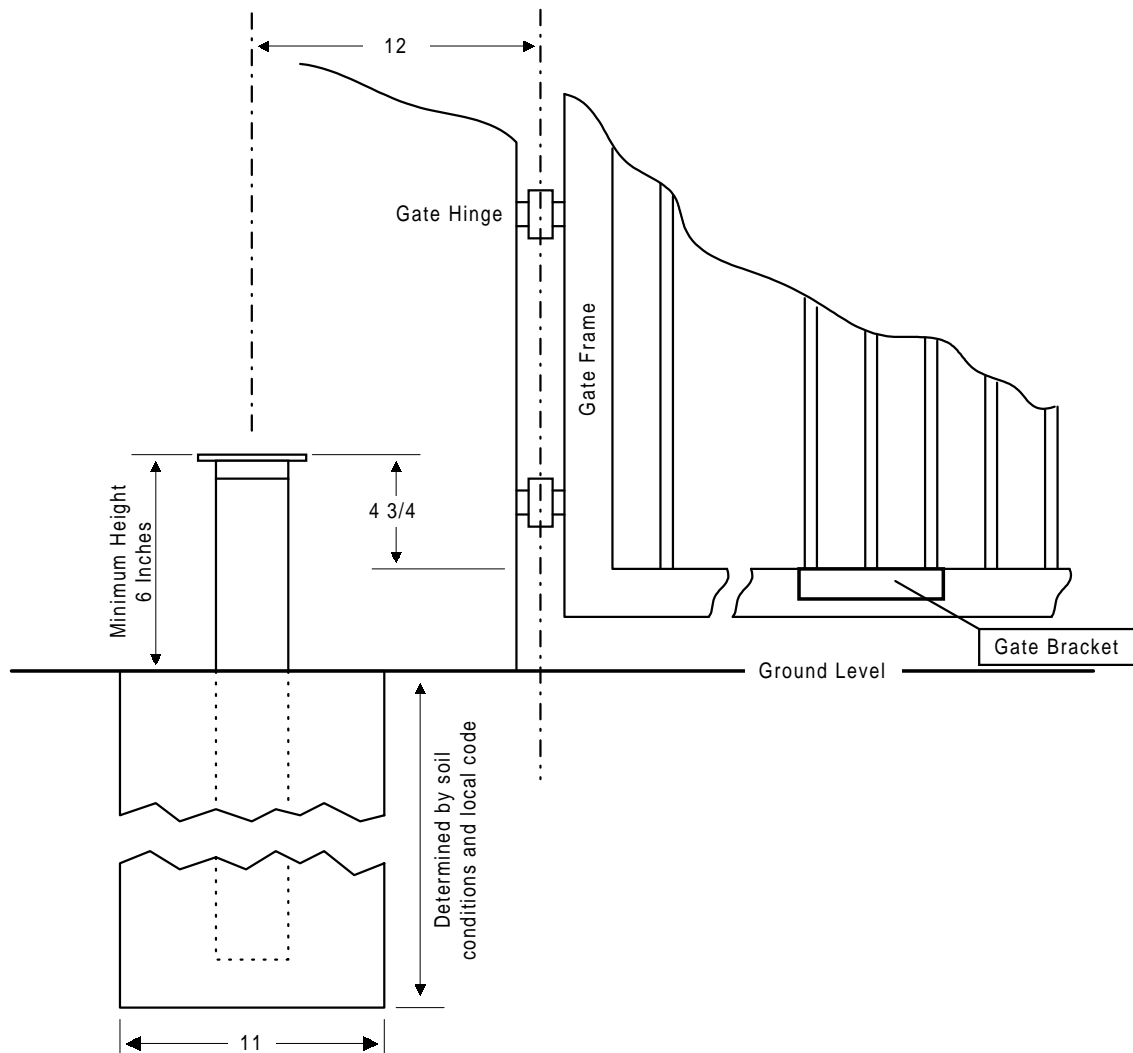
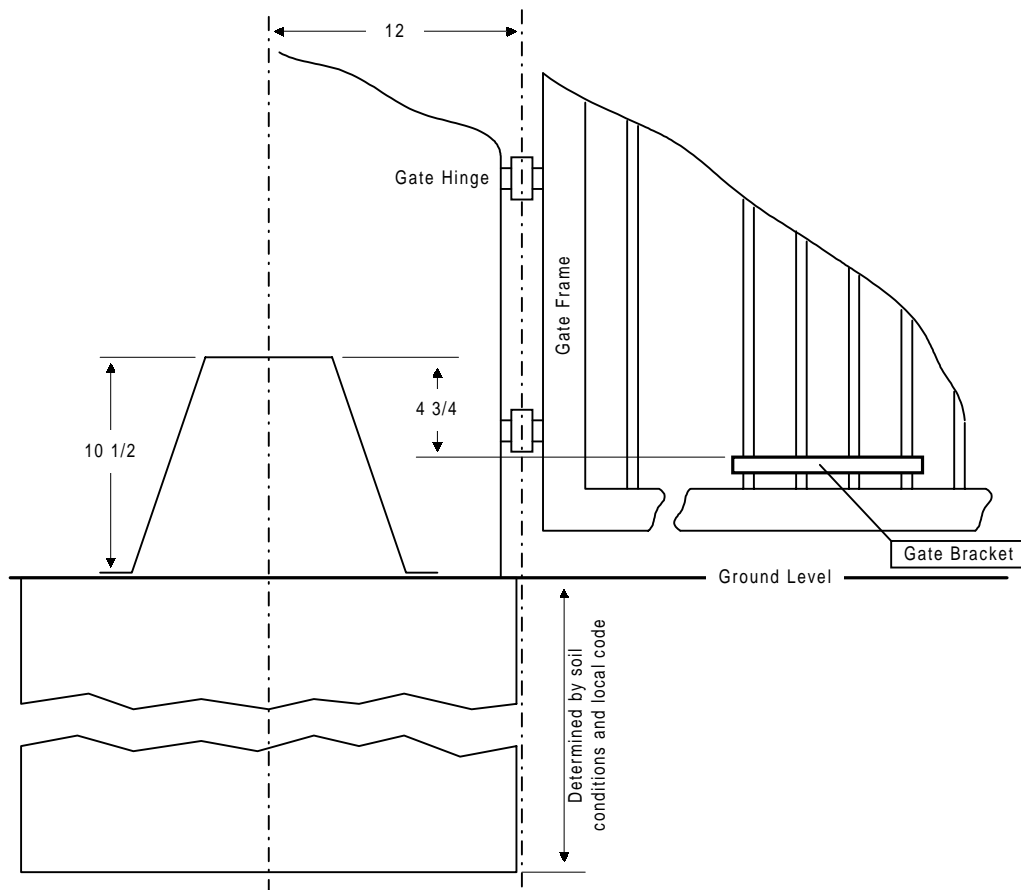
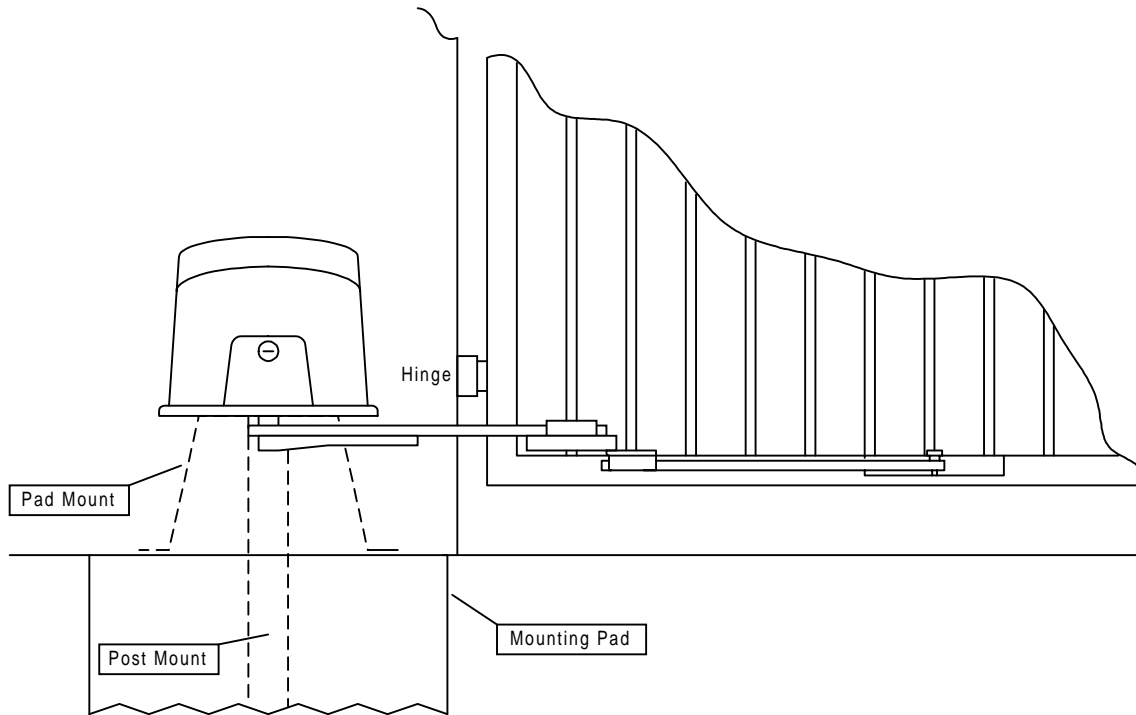

Figure 4
Figure 7
Figure 12
5. Determine the height of the assembly required for your installation. Refer to Figure 4.
- The concrete pad is sized so that there is a minimum of four (4) inches of concrete from the outside edge of the mounting pipes.
- The height requirement is determined by adjusting the mounting plate / pipe assembly so that the top of the mounting plate is 4 3/4 inches above the top of the gate rail (Figure 4). This will allow you to mount the gate bracket onto the bottom rail of the gate and will keep the crank and connecting arms level (see page 8, Figure 12).
- The concrete pad is sized so that there is a minimum of four (4) inches of concrete around the perimeter of the pad.
- Attach the gate bracket to the gate so that the top of the mounting plate is $4 \frac{3}{4}$ inches above the top of the gate bracket as shown in Figure 7. This will keep the crank and connecting arms level (see page 8, Figure 12).
- The position of the gate bracket on the gate is directly related to the height of the concrete pad above ground level. If allowed by local codes, the top of the concrete pad can be flush with ground level as shown in Figure 7, which will allow the gate bracket to be lower on the gate.